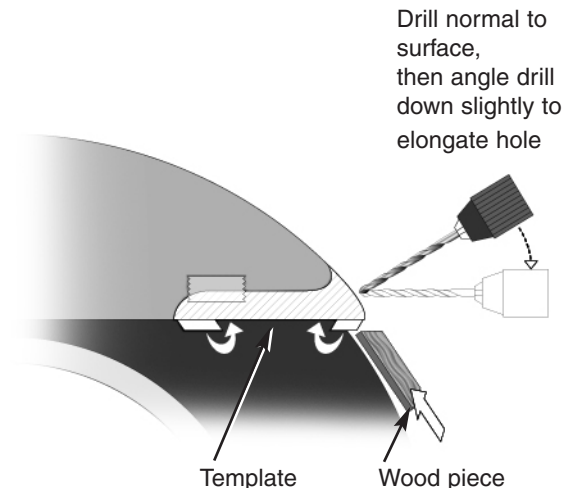

Figure 1
A. Place a thin piece of wood between the fender and the tire to avoid tire damage. Angle drill downward to slightly elongate hole (**Power Drill with 3/16" Drill Bit.**) **Figure 1**